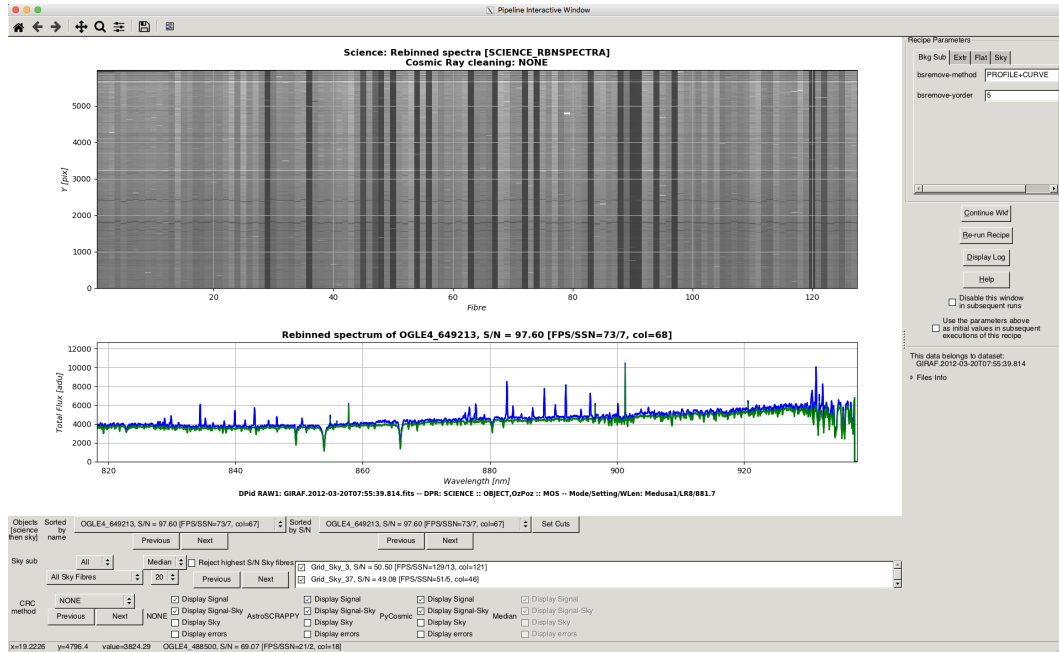

Figure 4.9: The Science Interactive GUI for the first dataset. The blue lines are the ‘Signal’, the green lines are the ‘Signal-Sky’.
- The workflow will now proceed to the Science actor and after running the recipe open the Science interactive GUI, see figure 4.9.